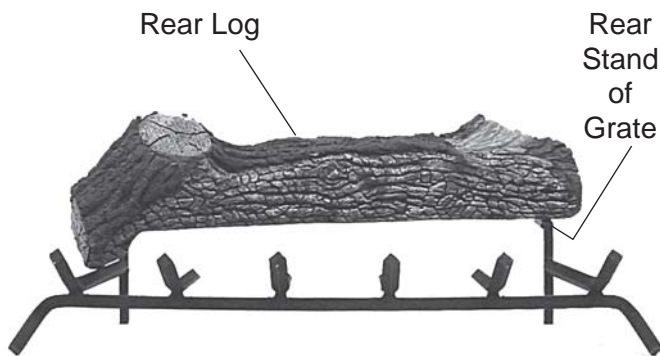

Figure 138 - Placing Rear Log #1 on Back Grate
2. Place Rear Log #1 on back of grate. Left side should fit on grate in front of rear stand. Right side goes on the rear stand of grate. See *Figure 138*.